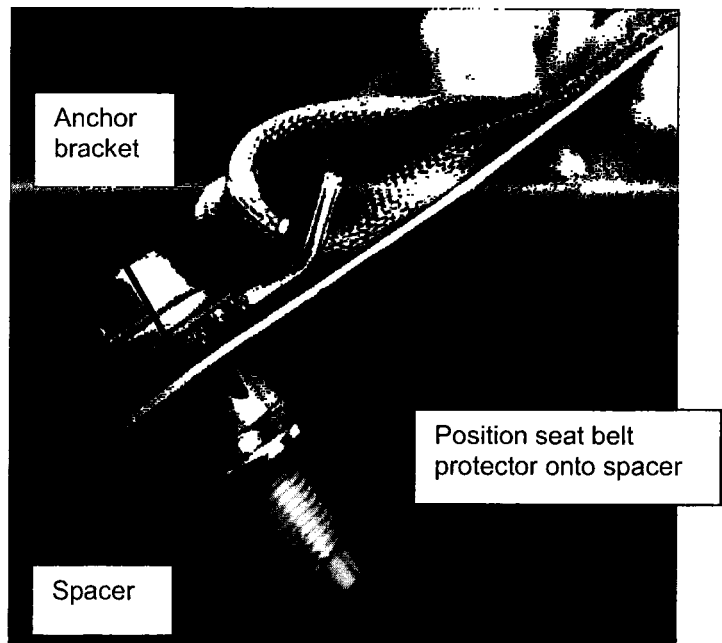

Figure 7
6. Re-install the seat belt anchor bolt, spacer, lock washer, and retainer on to the anchor bracket (see Figure 7).
- Make sure the hole in the seat belt protector is positioned onto the spacer, not between the spacer and the seat belt anchor bracket (see Figure 7).